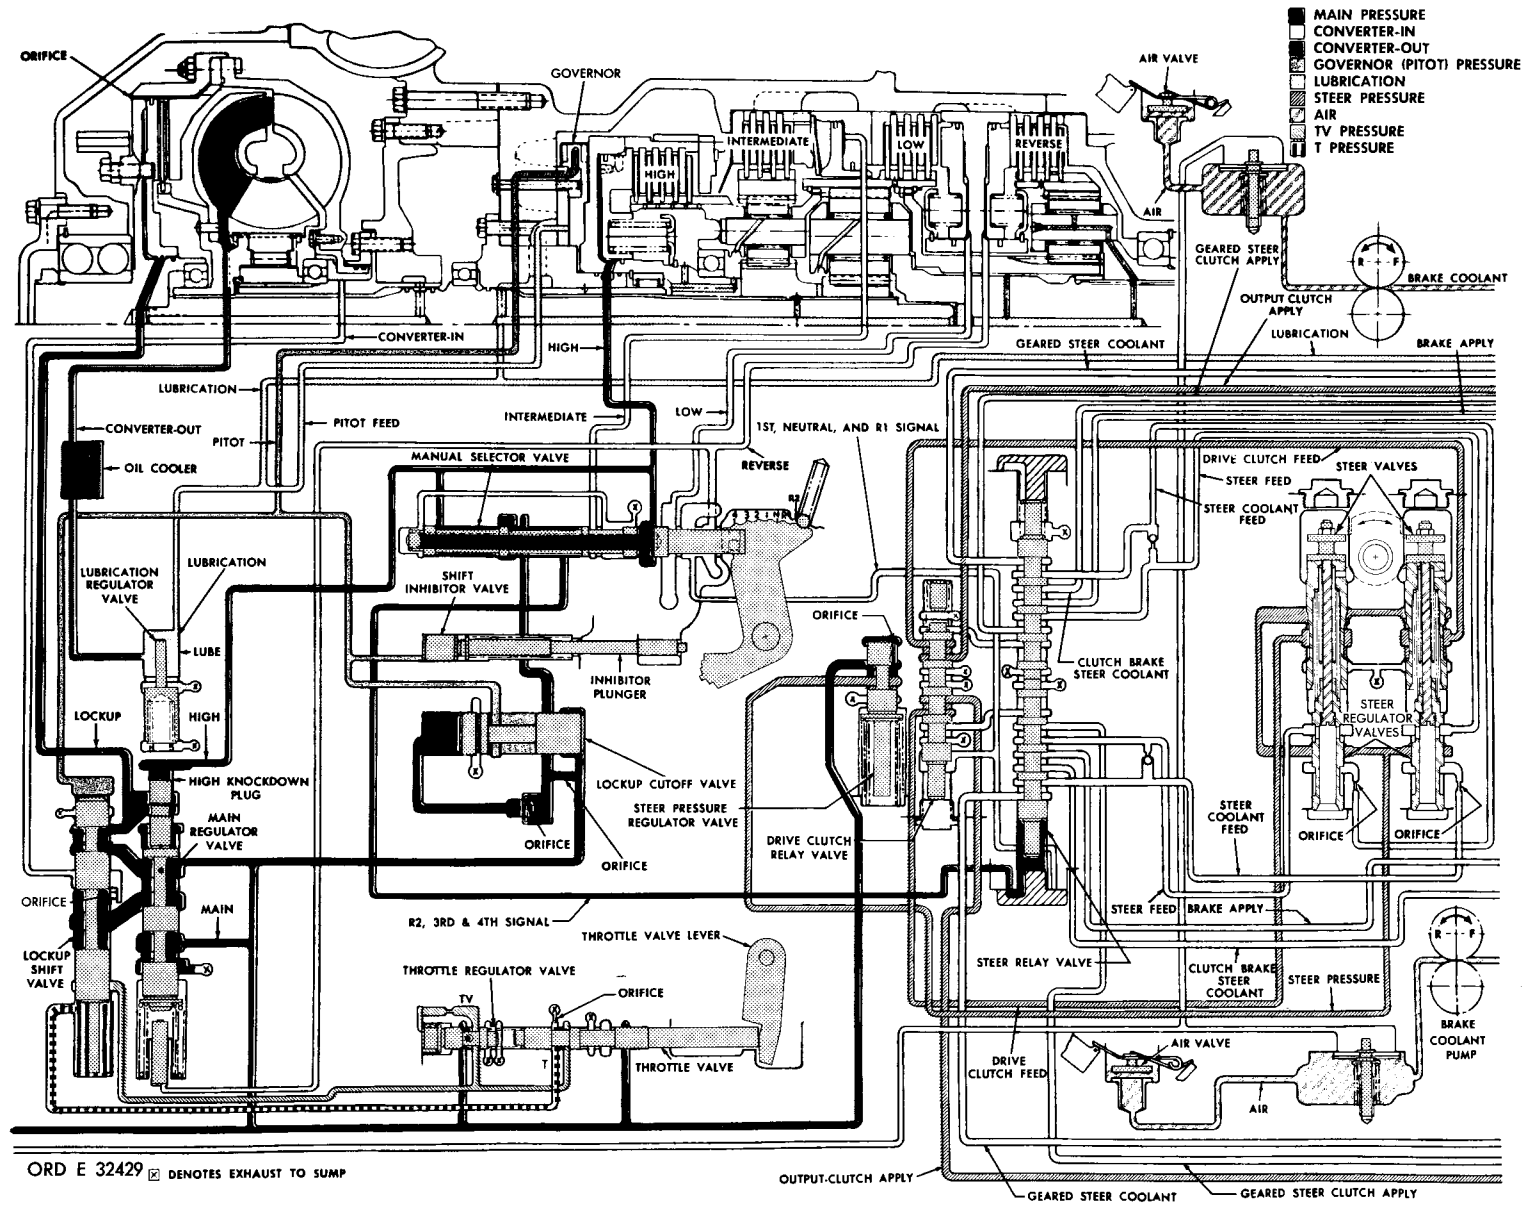

Figure 10. Hydraulic system, fourth gear — schematic view
34. HYDRAULIC SYSTEM FUNCTION - FOURTH GEAR (fig. 10)